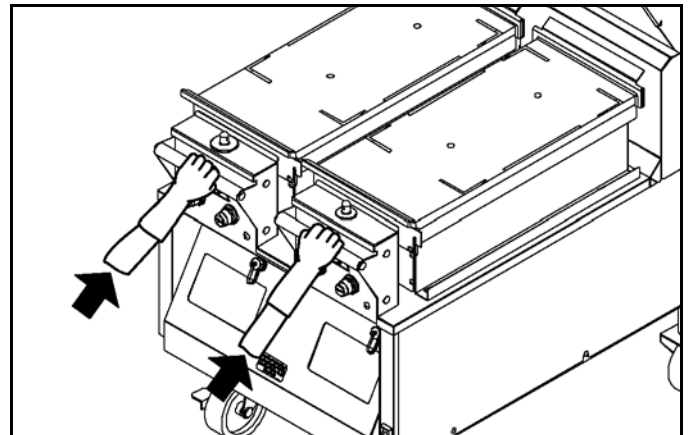

Figure-164
36. Push the grill back into place. See Figure-164.